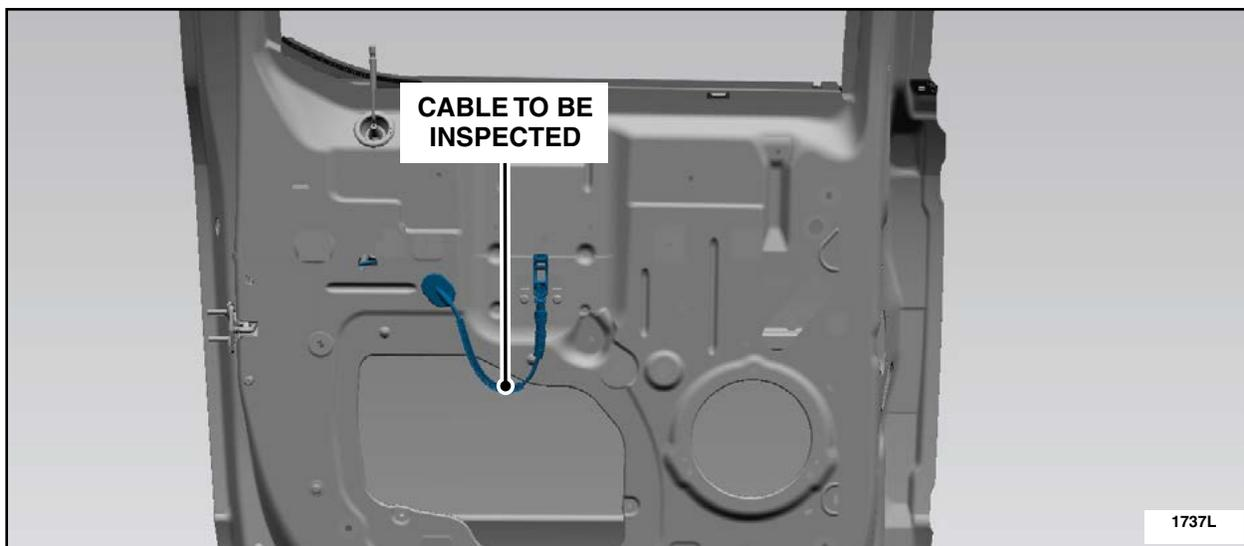

FIGURE 63
3. Inspect the interior door handle to latch release cable for kinking. See Figure 63.